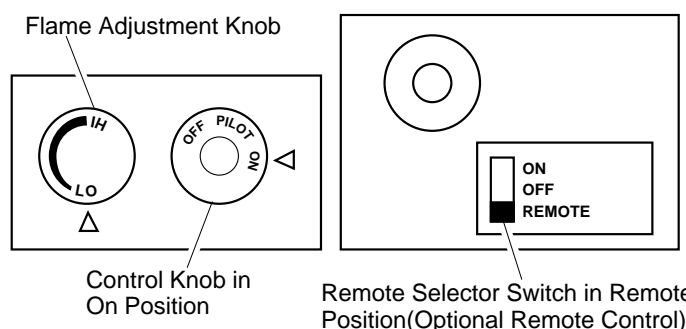

Figure 27 - Setting the Remote Selector Switch, Control Knob, and Flame Adjustment Knob for Remote Operation
1. After lighting, let pilot flame burn for about one minute. Turn control knob to ON position. Adjust flame adjustment knob anywhere between HI and LO. Slide the remote selector switch to the REMOTE position (see Figure 27). The burners will come on. You can now turn the burners on and off with the hand-held remote control unit.